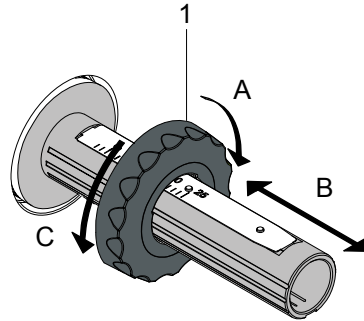

Fig. 12 Guide Adjustment
2. Turn lever (6) counterclockwise to open the printhead.
3. Set guide (1) on both hubs to the correct transfer ribbon width (Fig. 12):
- Hold hub and unlock guide (1) by turning it in direction A.
4. Load transfer ribbon (4) on the hub (5) until it reaches the guide in a way that the color coating of the ribbon faces the opposite side of the printhead after being loaded.